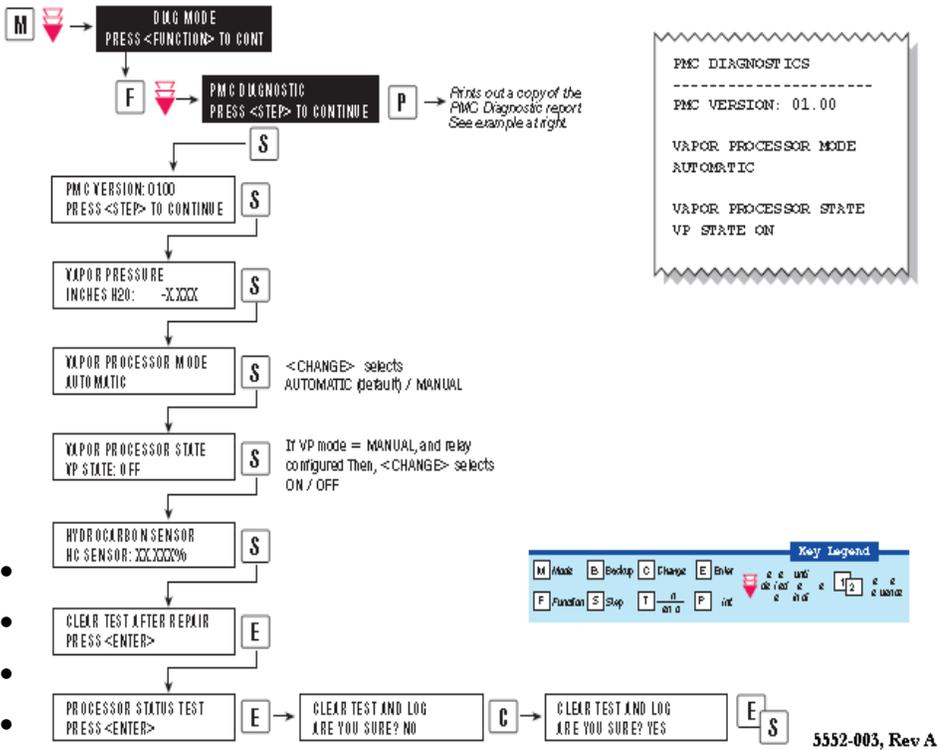
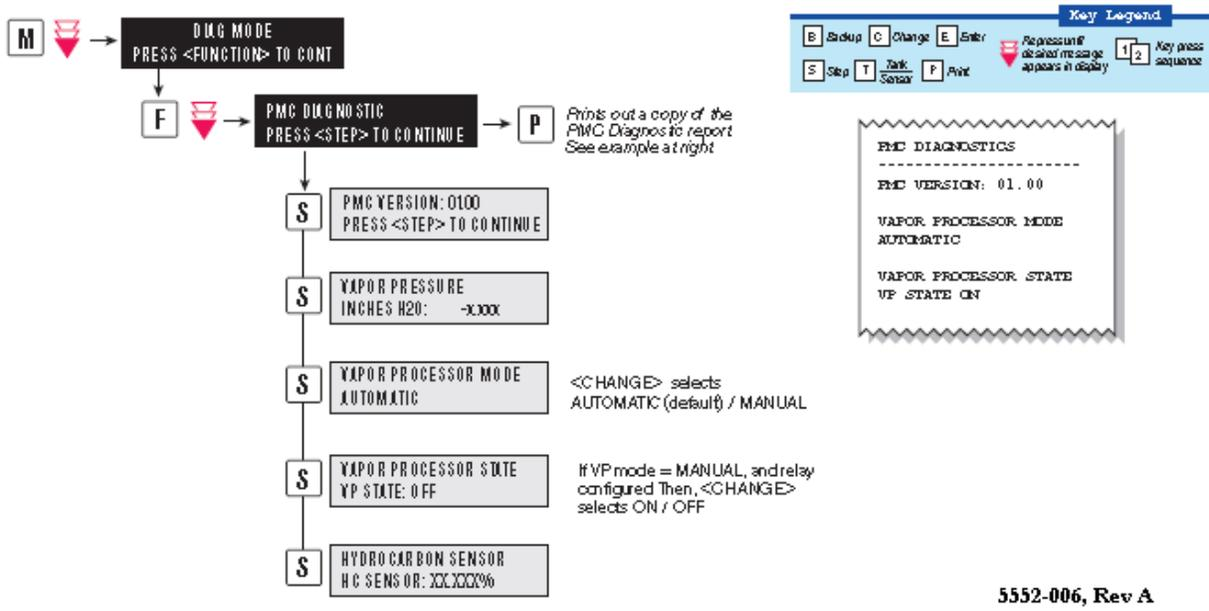

Figure 12: PMC Diagnostic Menu with PMC Software
Figure 13: PMC Diagnostic with ISD Software
- Follow the steps at the TLS console to put the TLS-350 in the Manual “OFF” Mode, as shown in Figure 12 for the PMC Diagnostic Menu and Figure 13 for the ISD Diagnostic Menu.
- Put the TLS-350 in the Manual OFF as shown in the Diagnostic Menus (See Figure 12 or Figure 13).
- Put the *Processor* in the manual ON Mode at the TLS as shown in the diagnostic menu in Figure 12 or Figure 13.